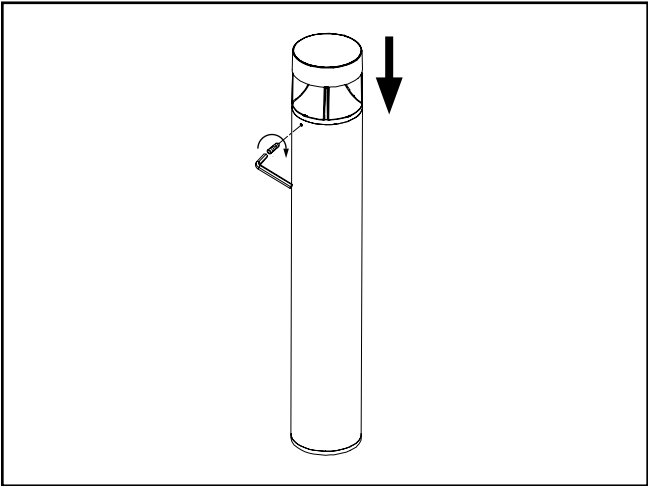

Figure 5.
5. Put the top head back on and tighten the 3 screws. Fig. 5. Tighten the 3 screws to 30 in-lbs.